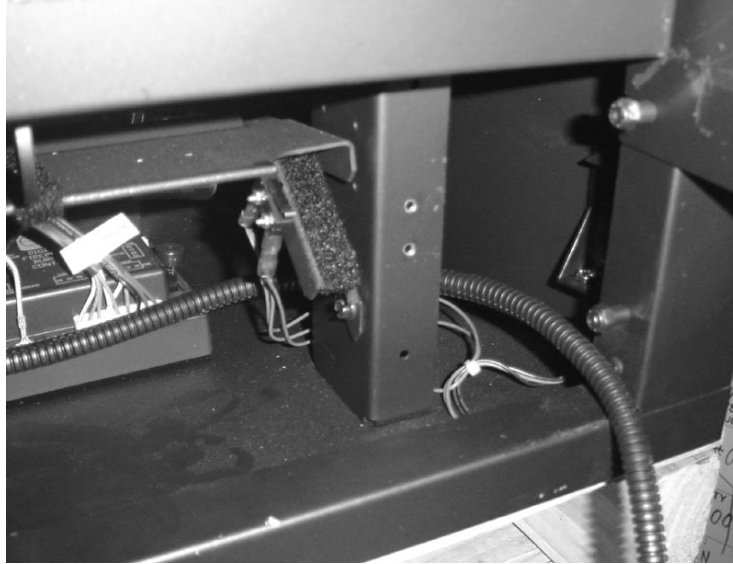

Figure 5
- 6 Route the switch box wiring harness around the right side support leg (see Figure 5).